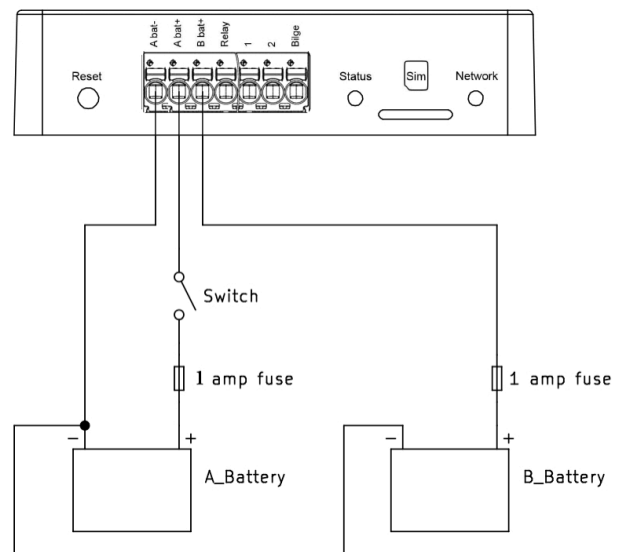

Figure 1. Power connections.
2. Connect the A bat + terminal to the positive (+) terminal of your battery through a switch and a 1 amp fuse in series as in Figure 1. If connecting to your positive (+) distribution panel, please be aware that using other high current devices on the same panel can drop the voltage that Hello Sailor receives, and so this should be taken into consideration when monitoring the A battery bank voltage.
CAUTION: The A battery and B battery banks must share a common negative (-) as in Figure 1. If the batteries are not joined at their negative terminals by a short, heavy-duty cable, the B bat + terminal of hello sailor cannot be used and must remain disconnected.
To monitor a second battery bank, connect B bat + to the positive (+) terminal of the second battery, through a 1 amp fuse, ensuring that the negative (-) terminals of the A and B batteries are directly connected to each other by a short heavy duty cable, as in Figure 1.